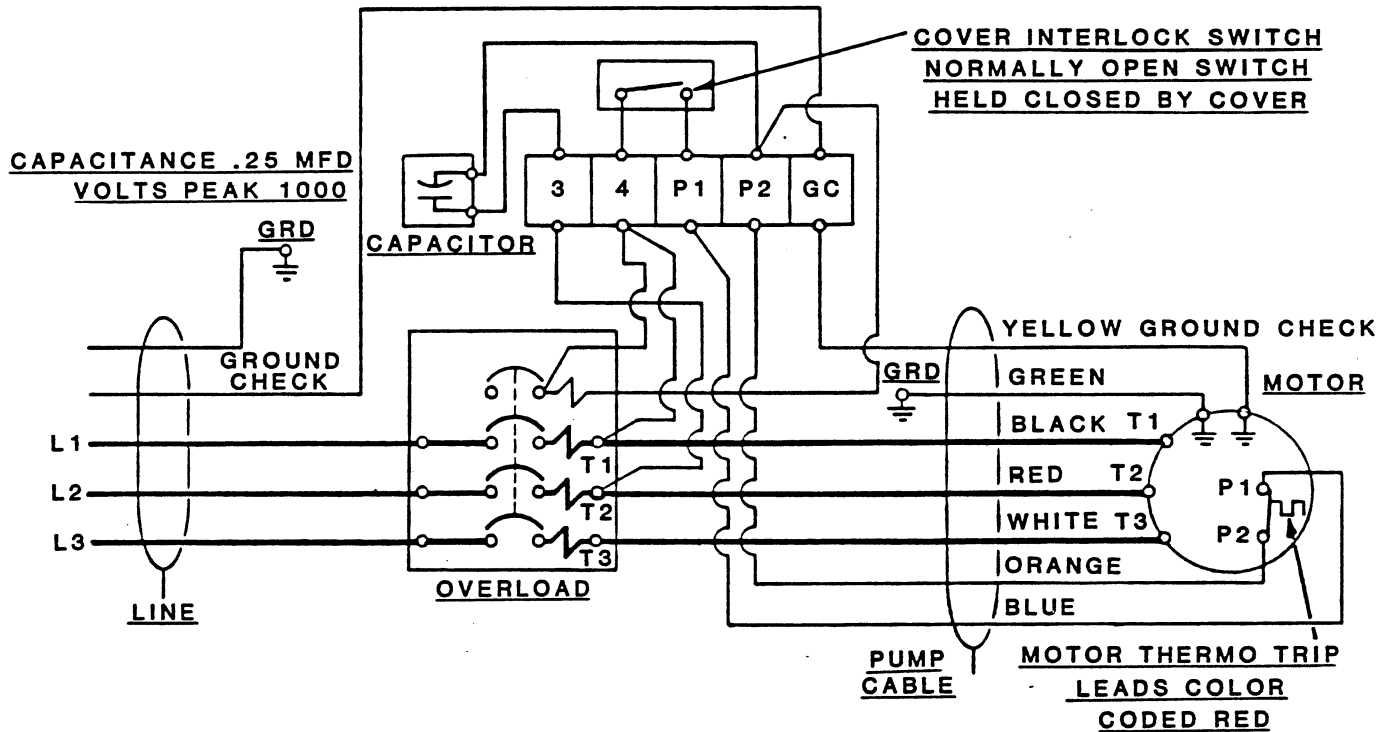

Figure 6. Connection Diagram For 47631-005
- a. Measure the incoming voltage across lines (1 & 2, 2 & 3, and 1 & 3) while the pump is **operating at full capacity**. See Figure 6 on page B-15..
Connect the pump power cable to the control box as shown in Figure 6 on page B-15.. Use the packing gland nuts to secure and seal the power and accessory cables to the control box. Make certain that all connections are tight and that cable entry points are rainproof.